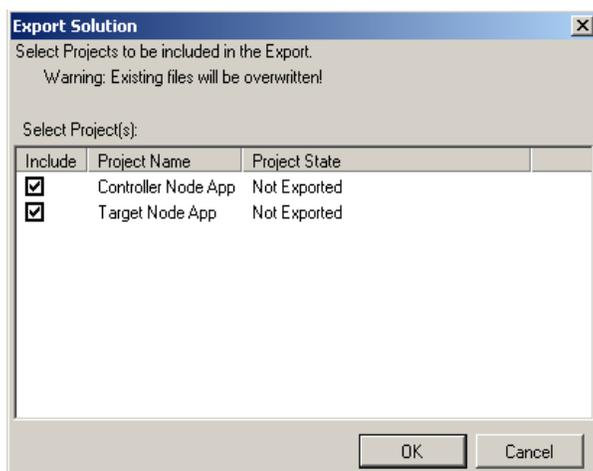

Figure 2-14. Export BeeKit Project Solution Window
1. From the Solution menu, select Export Solution. BeeKit starts to verify the internal consistency of the configuration. If the verification succeeds, the window that opens will display all the created devices, each with a checked box as shown in Figure 2-14.